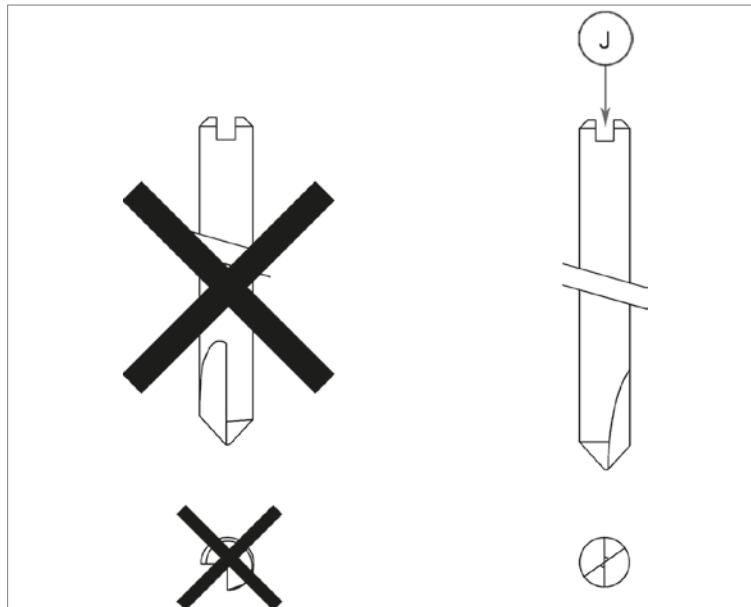

Fig. 26
- CUTTER: fit the tool into the spindle; push all the way in and turn until it clicks into place on the anti-rotation stop in the groove (J) on the tool (Fig. 26).